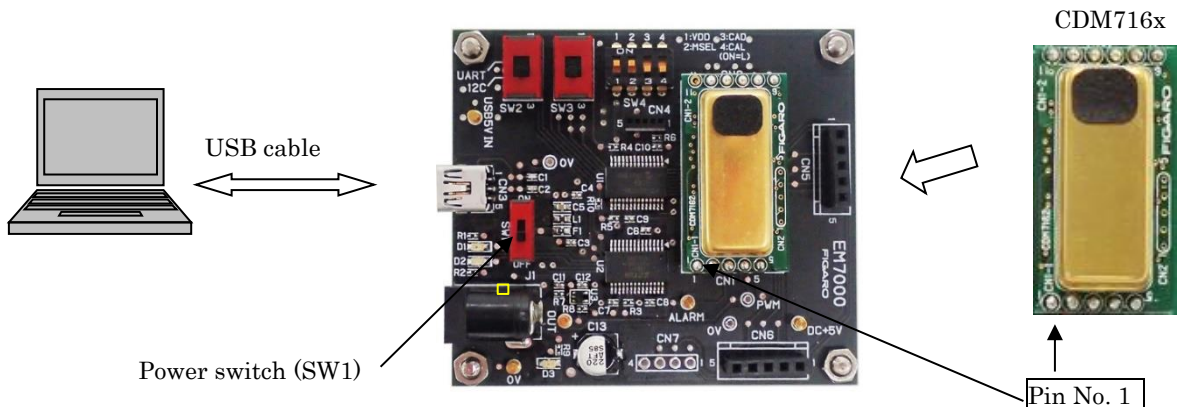

Figure 3 – Attaching CDM716x CO2 Sensor.
The CDM716x series CO2 sensor module is not included with shipment from the factory. When mounting a CDM716x, match the pin # of connectors CN1 and CN2 on EM7000 with the corresponding pin # of the CDM716x (Figure 3).
**Caution!!** Before mounting or removing CDM716x, be sure to turn off the power switch (SW1) by setting it to the lower position as shown in Fig. 3.